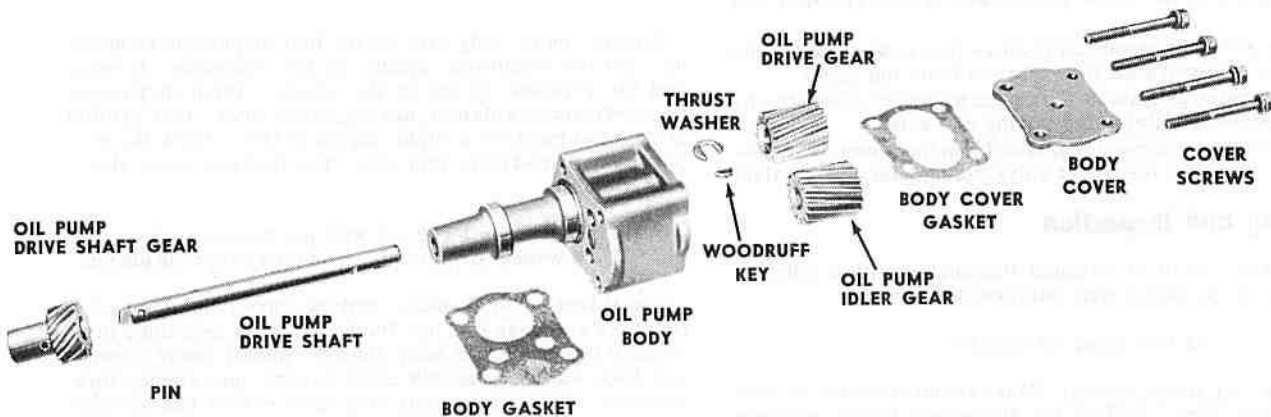

FIG. 352
**COMMANDER** The oil pump on the 1948 Commander does not incorporate the windshield wiper vacuum booster. (See Fig. 352.) The vacuum booster unit is an integral part of the fuel pump assembly.